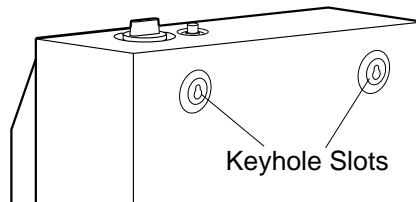

Figure 9 - Location Of Keyhole Slots On Back Panel Of Heater
1. Locate two keyhole slots on back panel of heater (see Figure 9).